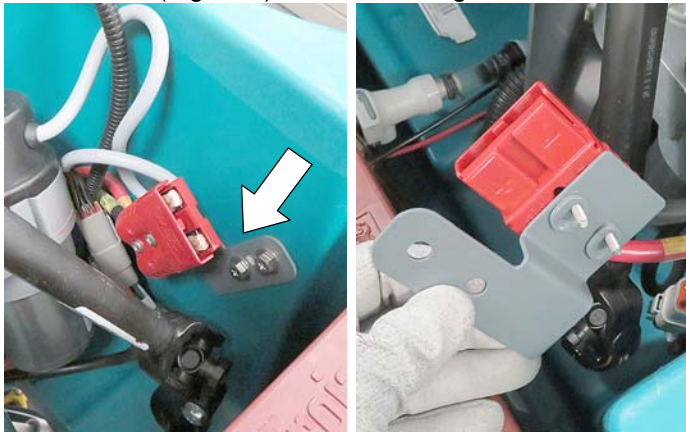

Fig. 6
- 8. Remove the battery cable connector bracket from the machine (Figure 6). Save mounting hardware.